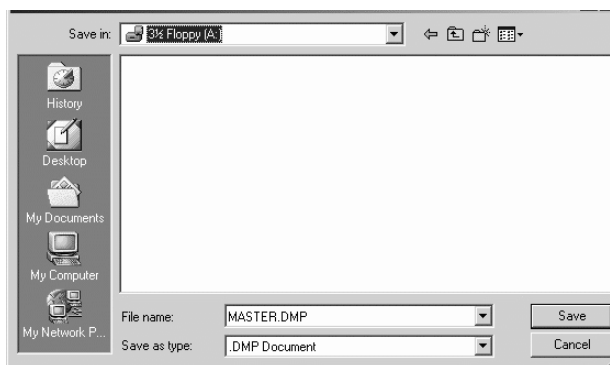

Figure 43: Choosing the location to save the CTP maintenance information
4. When you have accessed the **Save As** dialog box (Figure 43), choose **All Files** from the **Save as type:** field. When naming the file, add a **“.dmp”** extension to the filename.